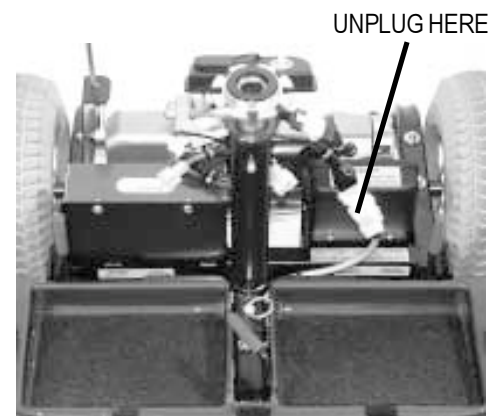

FIGURE 15. FRONT-TO-REAR CABLE
7. Unplug the large, white, 9-pin front-to-rear connector that attaches the front control console assembly harness to the electronic controller module harness. See figure 15.
8. Insert the large, white, 9 pin connector (located on the harness coming out of the Victory’s front section) to the connector’s mating socket (found near the front of the Victory’s rear section). See figure 15.